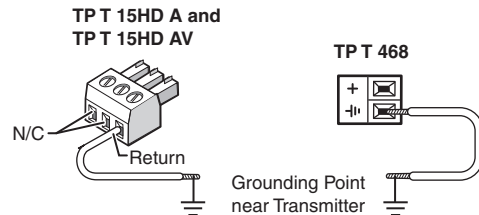

Figure 2-13 — Grounding the transmitter
- **TP T 15 HD A and TP T 15HD AV** — Use a 3.5 mm captive screw connector to connect a ground wire between the power return pin (figure 2-13) and a grounding point near the transmitter, such as a grounded power outlet or an equipment rack.
- **TP T 468 only** — Connect a ground wire between the power return pin (figure 2-13) of the 3.5 mm, 2-pole direct-insertion captive screw connector on the rear of the transmitter and a grounding point near the transmitter.